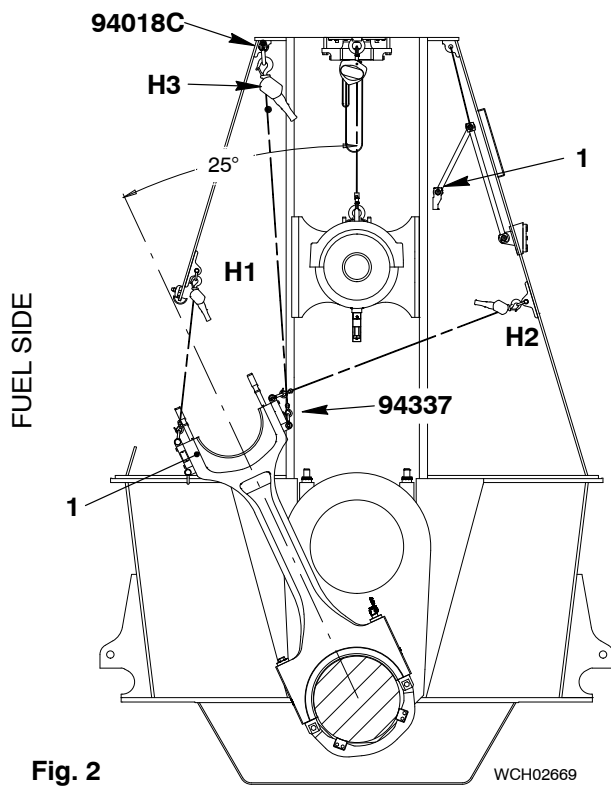

Fig. 2
- 1) Operate the manual ratchets (H1 and H2 Fig. 2) to move the connecting rod (1) to the fuel side.